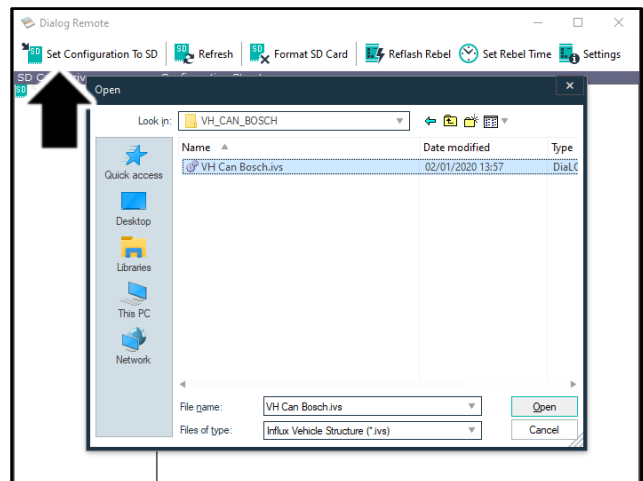

Figure 2
4. Open "Dialog Remote" Click on "Set Configuration to SD" (refer to Figure 2).